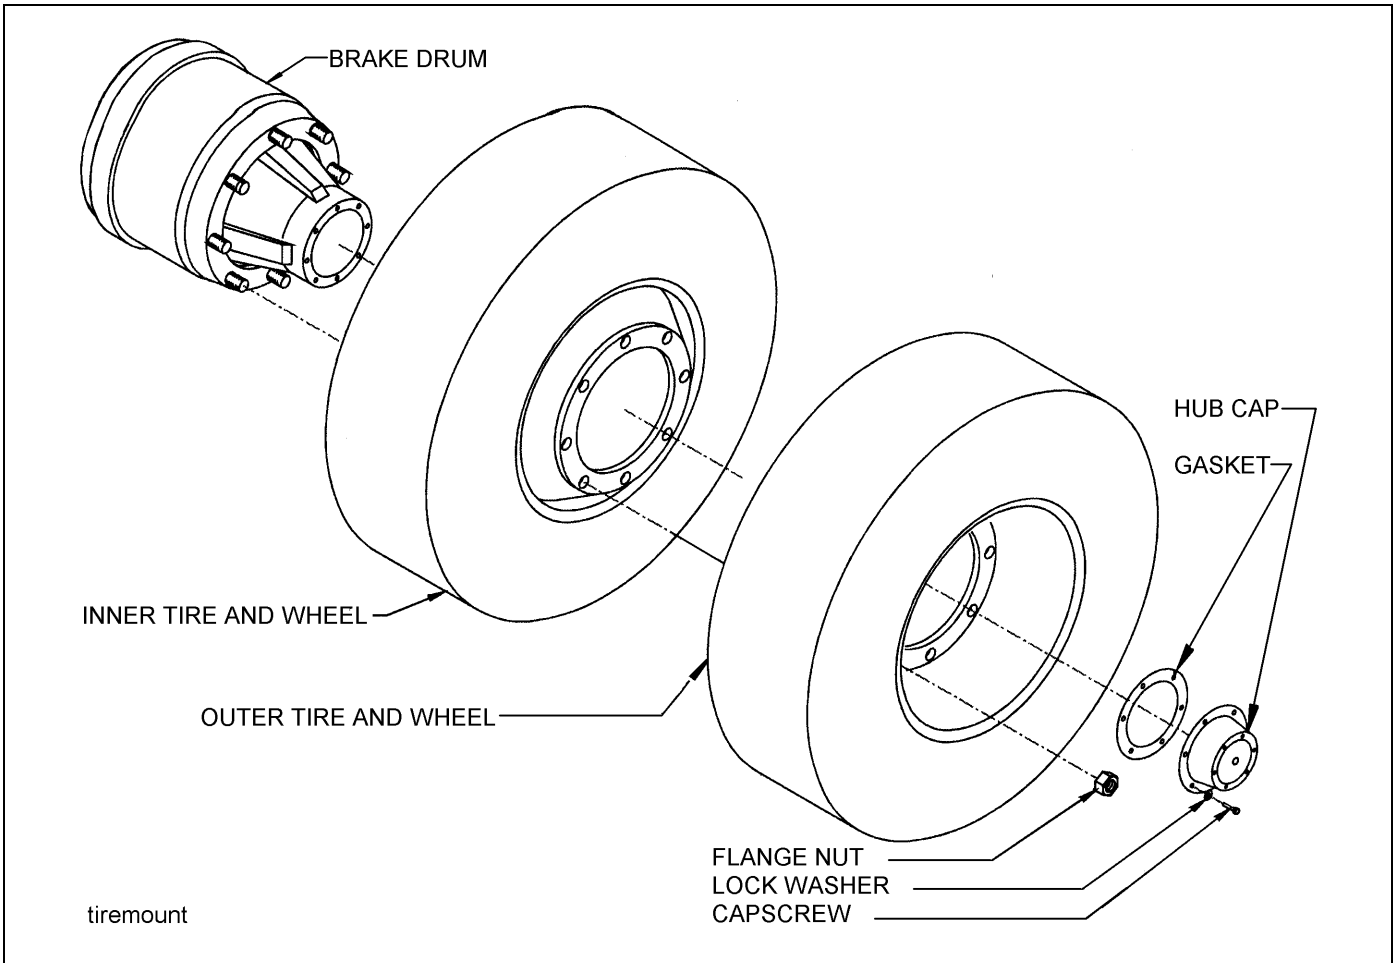

Figure 4-16: Mounting Tires and Wheels
6. For aluminum wheels, often a separator plate is used **(See Figure 4-16.)** The separator plate is approximately .040" thick. It is placed between the drum and the wheel, or between two wheels in dual applications. The separator plate is recommended in severe applications where corrosion and/or wear have been identified. Aluminum wheels benefit from use of the separator plate. Care must be exercised in centering the separator plate prior to torquing, and stud length must be checked as each plate is approximately .040" thick.
1. Make sure that all mounting surfaces are clean and free of rust, dirt or paint. A wire brush may be used to clean these surfaces **(See Figure 4-16.)**